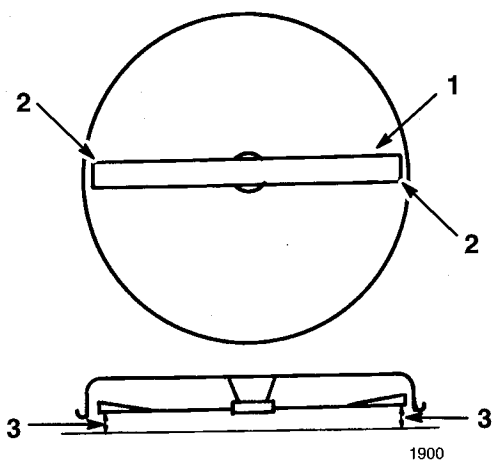

Figure 44
4. Carefully rotate blade(s) side to side (Fig. 44). Measure between the outside cutting edges and the flat surface (Fig. 44). If both measurements are not within 3/16" (4.762mm), an adjustment is required; refer to steps 5 and 6.